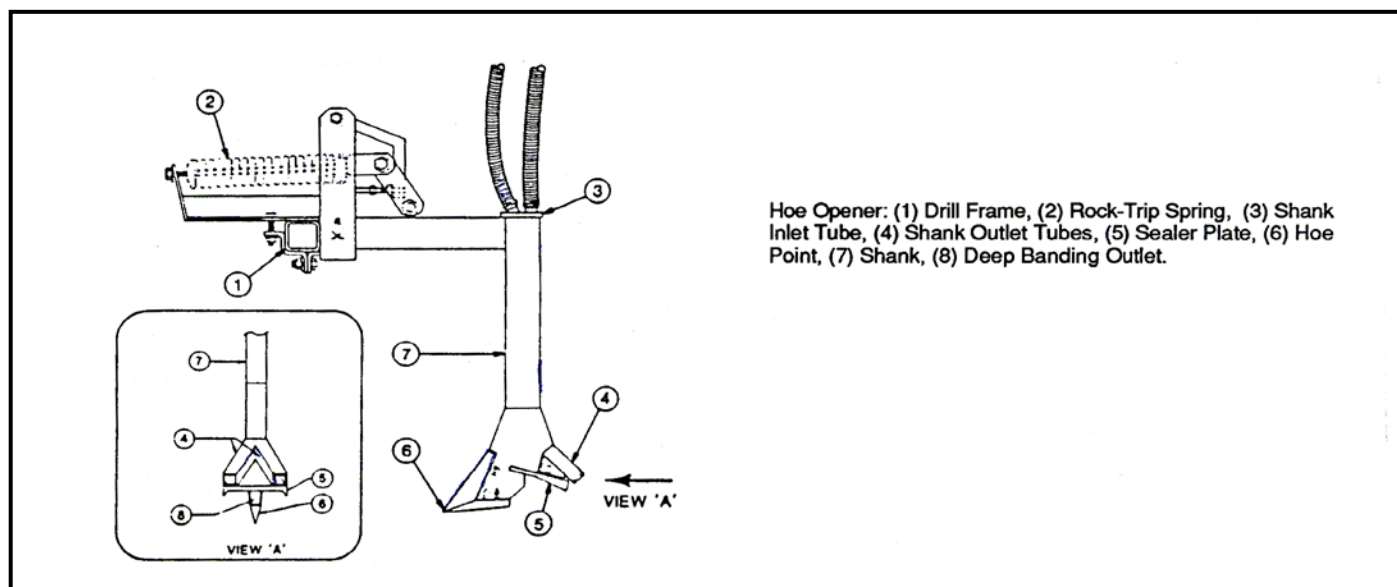

Figure 5 Typical Zero Till Hoe Drill Opener Assembly
**ZERO TILL HOE DRILLS** ( See Figure 5 )